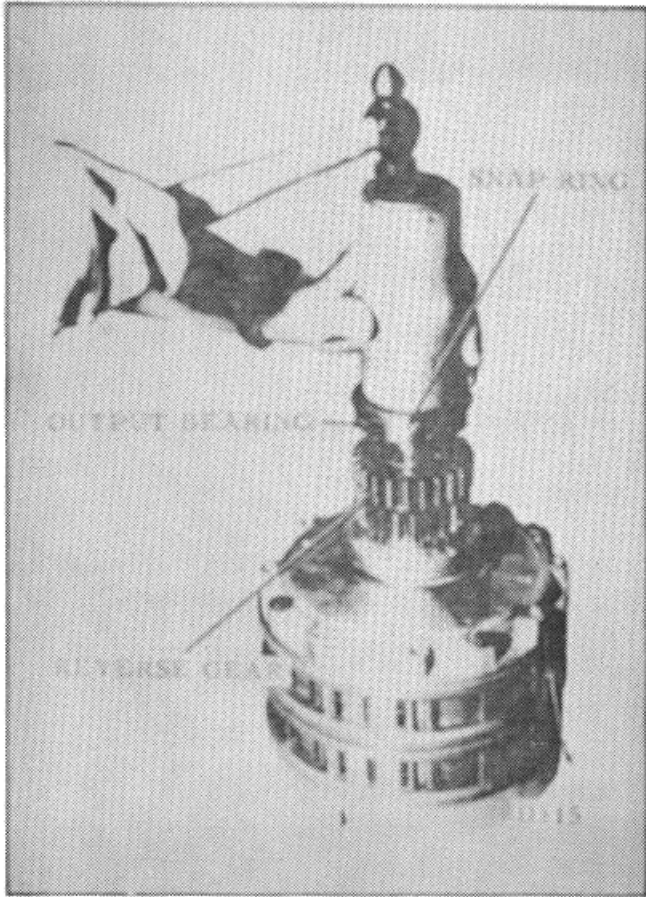

Figure 33.
13. Slide the reverse gear into position next to the thrust washer. Drive the output bearing onto the output shaft, snap ring up. (Fig. 33)